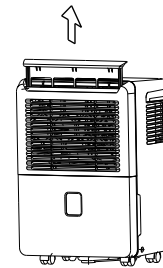
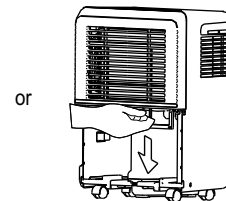

Fig. 11a
Fig. 11b
- Remove the filter from the top of the unit (See Fig. 11a), or to remove the filter, remove Bucket then pull filter downwards (See Fig. 11b).